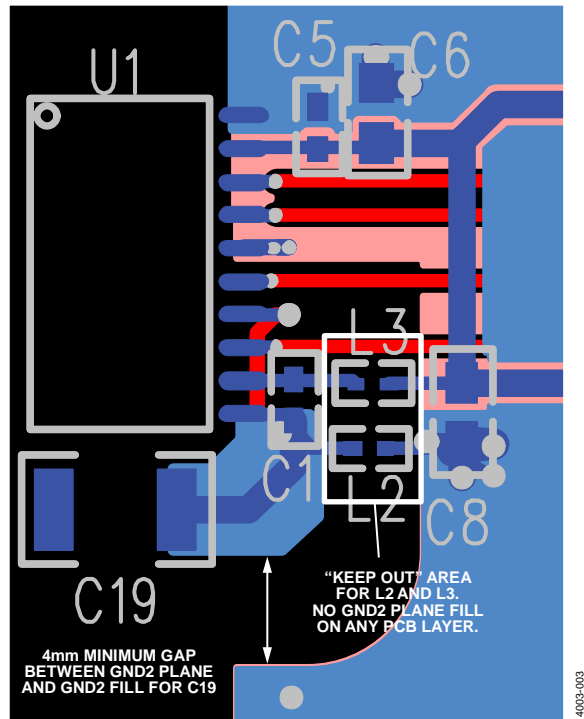

Figure 3. Layout Notes for EVAL-ADM2582EEMIZ and EVAL-ADM2587EEMIZ
- Do not connect the V_{ISOOUT} pin to a power plane; connect between V_{ISOOUT} and V_{ISOIN} using a PCB trace. Ensure V_{ISOIN} (Pin 19) is connected through the L3 ferrite to V_{ISOOUT} (Pin 12) as shown in Figure 3.
- Ensure GND_2 (Pin 16) is connected to GND_2 (Pin 11) on the outside (bus side) of the L2 ferrite as shown in Figure 3.